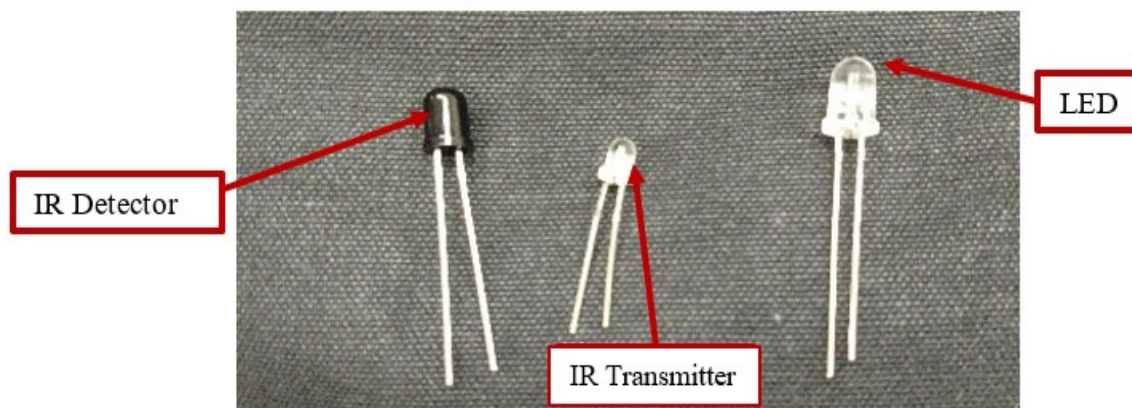

Figure 4.8 – IR Emitter and Detector (and an LED)
In this lab, we will be using a simple IR emitter and photo detector shown in Figure 4.8.
The emitter is the one with the tinted casing while the detector has the clear casing. (**Note:** The photodetector looks very much like one of the LEDs in your kit. We have shown the LED in the photo in Figure 4.8 as well so that you can tell which is which.) Notice that with both the IR emitter and the detector, one lead is longer than the other. This allows you to keep track of polarity as neither of these devices will function if you hook them up backwards. For the emitter (the dark one), the long lead is the anode (A) and the short lead is the cathode (C). It essentially functions as a diode that emits IR light when there is a current flowing through it. You will have to apply a